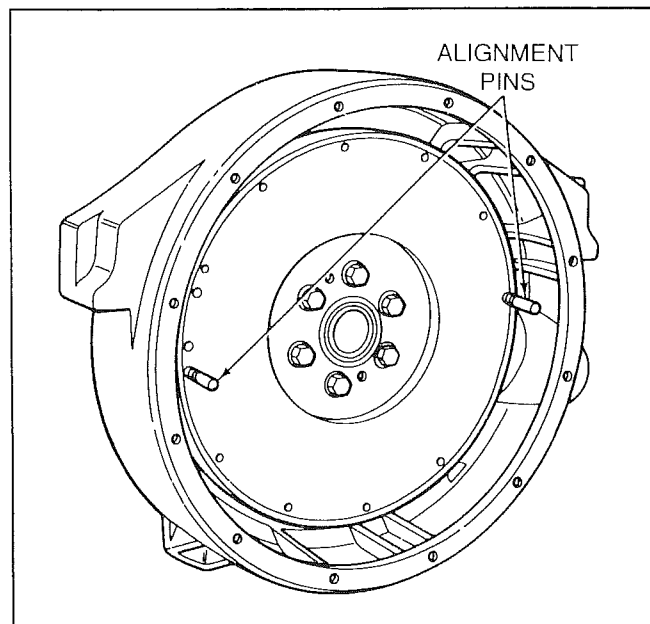

Figure 10-5. Alignment Pins Installed
15. Install two alignment pins into two flywheel mounting holes that are 180 degrees apart (Fig. 10-5).